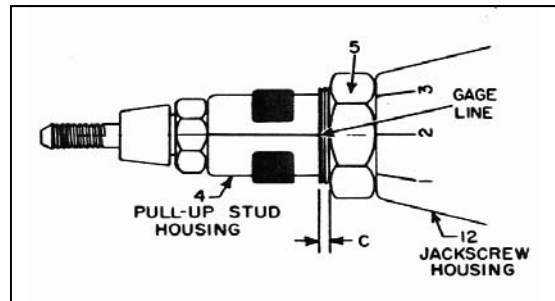

Figure 4 - Pull-Up Stud Housing Gage Line & Graduation Lines.
- a. Note relative position of gage line on pull-up stud housing and corresponding numbered graduation line on jackscrew housing (fig 4, pg 6). Graduation lines represent increments of .006" pull-up.
- c. Loosen pull-up stud housing nut (5,fig 4,pg 6), unthread pull-up stud housing *out of* jackscrew housing the required amount. (Each graduation line increases pull-up by .006 and complete revolution of pull-up stud housing results in .072 pull-up).
- d. Tighten pull-up stud housing nut (5,fig 4,pg 6).
- c. Note relative position of gage line on pull-up stud housing and corresponding numbered graduation line on jackscrew housing (fig 4).
- d. Loosen pull-up stud housing nut (5,fig 4), thread pull-up housing *into* jackscrew housing desired amount. Note that each graduation will reduce pull-up .006", each complete revolution will result in .072" reduction in pull-up.
1. Note, (fig 4, pg 6), distance C and relative position of gage line on pull-up stud housing to corresponding graduation line on jackscrew housing.
2. Loosen pull-up stud housing nut (5,fig 4) unthread and remove pull-up stud housing from jackscrew housing.